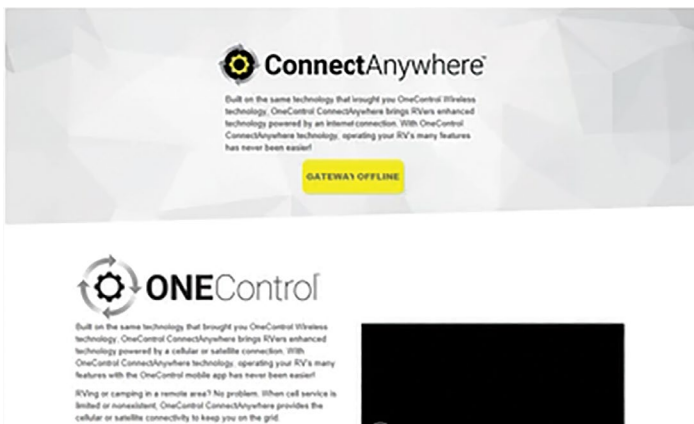

Fig.37
9. If the unit is off-line or cannot reach the Internet, the "GATEWAY OFFLINE" web page (Fig.37) will display.